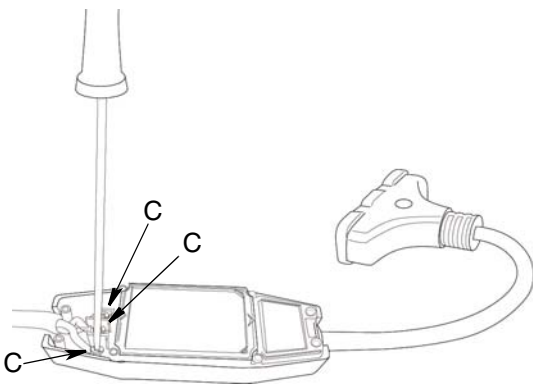

FIG. 13
3. Unscrew three Phillips #2 screws (C) and disconnect black, white, and green wires from GFCI terminals (FIG. 13).
2. Connect green wire from cord to green terminal from GFCI module. Connect black wire from cord to brass terminal. Connect white wire from cord to silver terminal. Re-tighten three Phillips #2 screws (C) (FIG. 13).